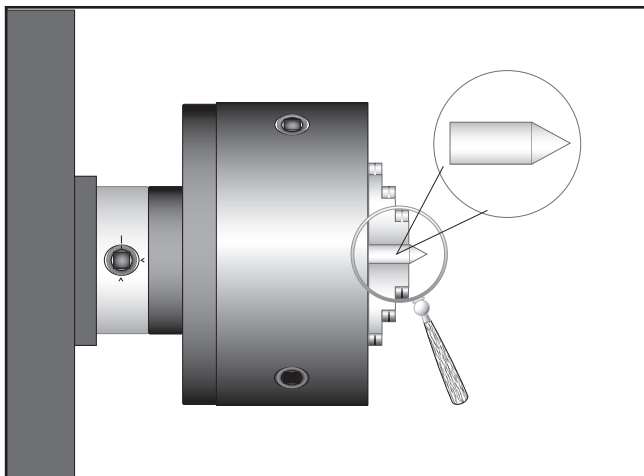

Figure 39. Turning a dead center.
4. Use the other piece of round stock to make a dead center by turning a shoulder to make a shank, then flip the piece over in the chuck and turn a 60° point, as shown in **Figure 39**.